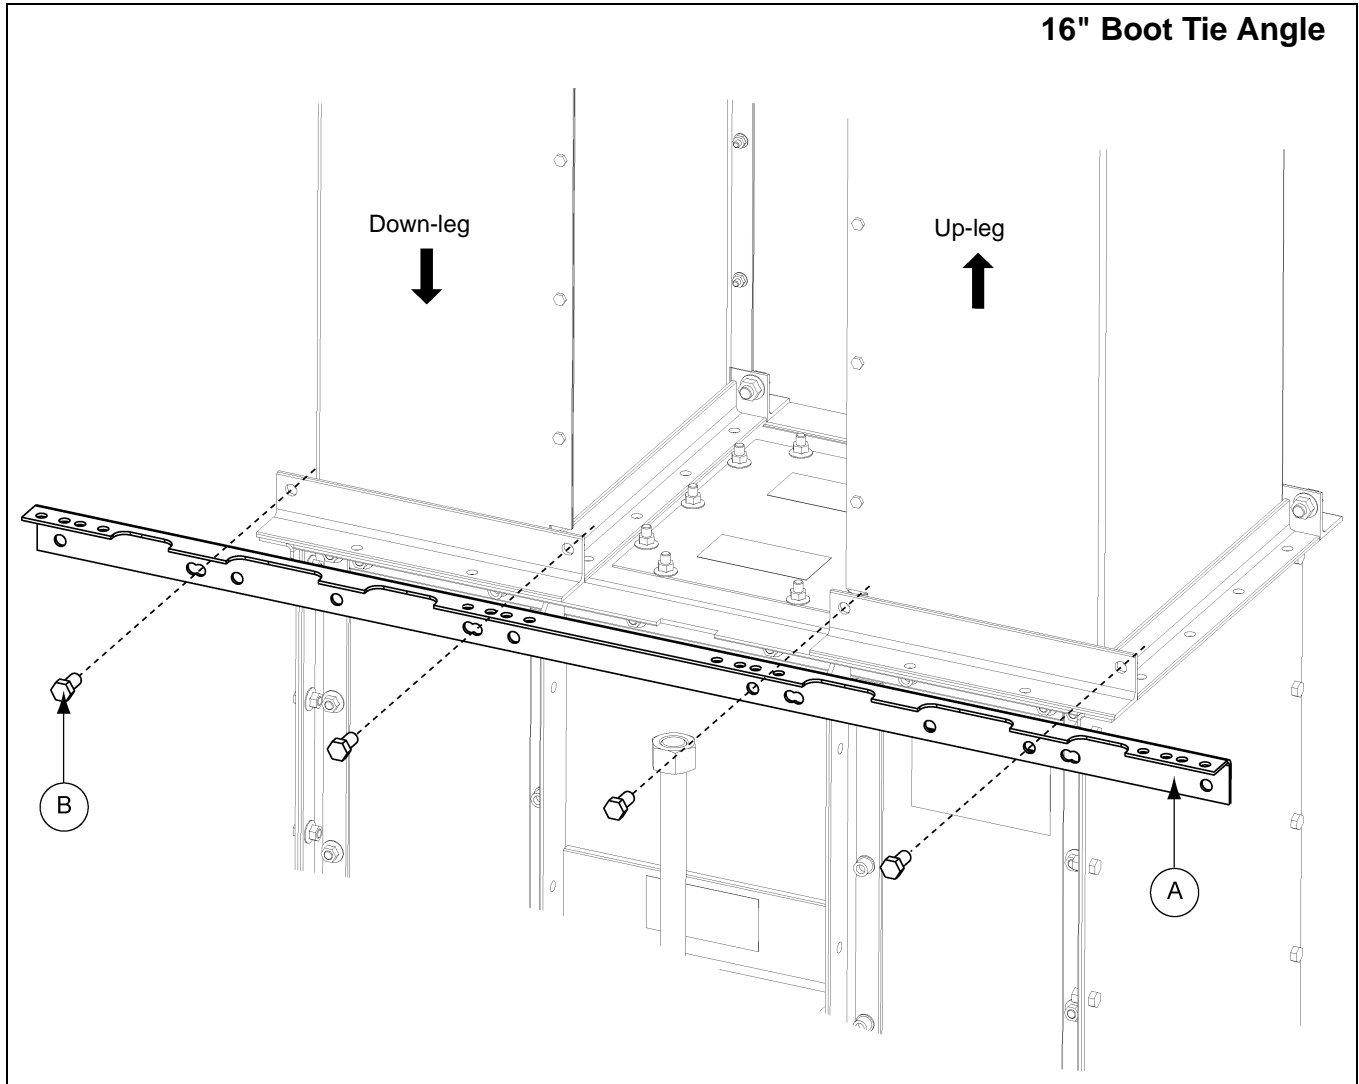
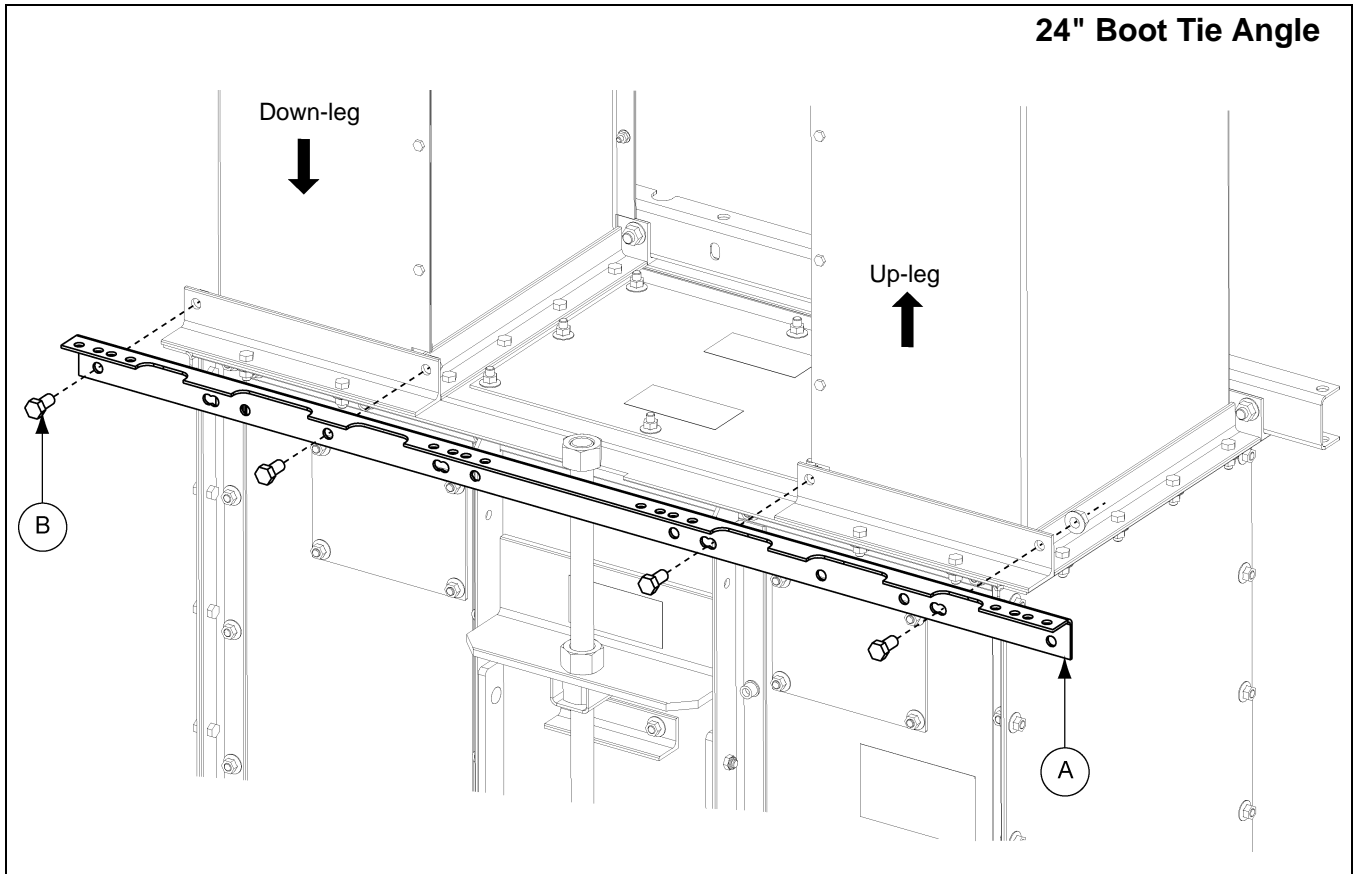

Figure 6A 16" Boot Tie Angle
Figure 6B 24" Boot Tie Angle
1. On the NON-LADDER SIDE, attach tie angle to the trunking using 1/2" x 1" bolts. (See Figure 6A below and Figure 6B on Page 20.)
- a. **For 16" Boot Tie Angle:** With lip of tie angle up and outward, align tie angle so that it extends beyond the trunking at each end. (See Figure 6A.)
- b. **For 24" Boot Tie Angle:** With lip of tie angle up and outward, align edge of tie angle to edge of trunking at down-leg end. With this alignment, tie angle will extend slightly beyond the edge of trunking at the up-leg end, as shown in Figure 6B.